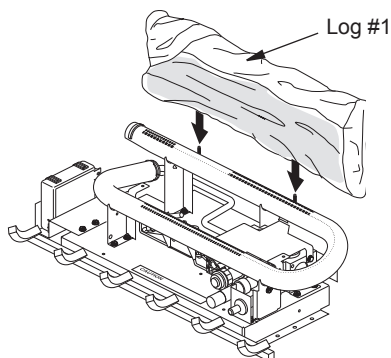

Figure 20 - Rear Log (Log #1) Placement
1. Place rear log (log #1) behind burner on the two pins on rear bracket (see Figure 20).